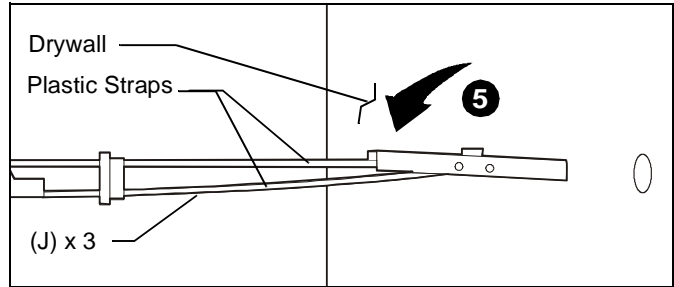

Figure 6
5. Hold metal channel on anchor (J) flat alongside plastic straps and slide channel through hole. (See Figure 6)